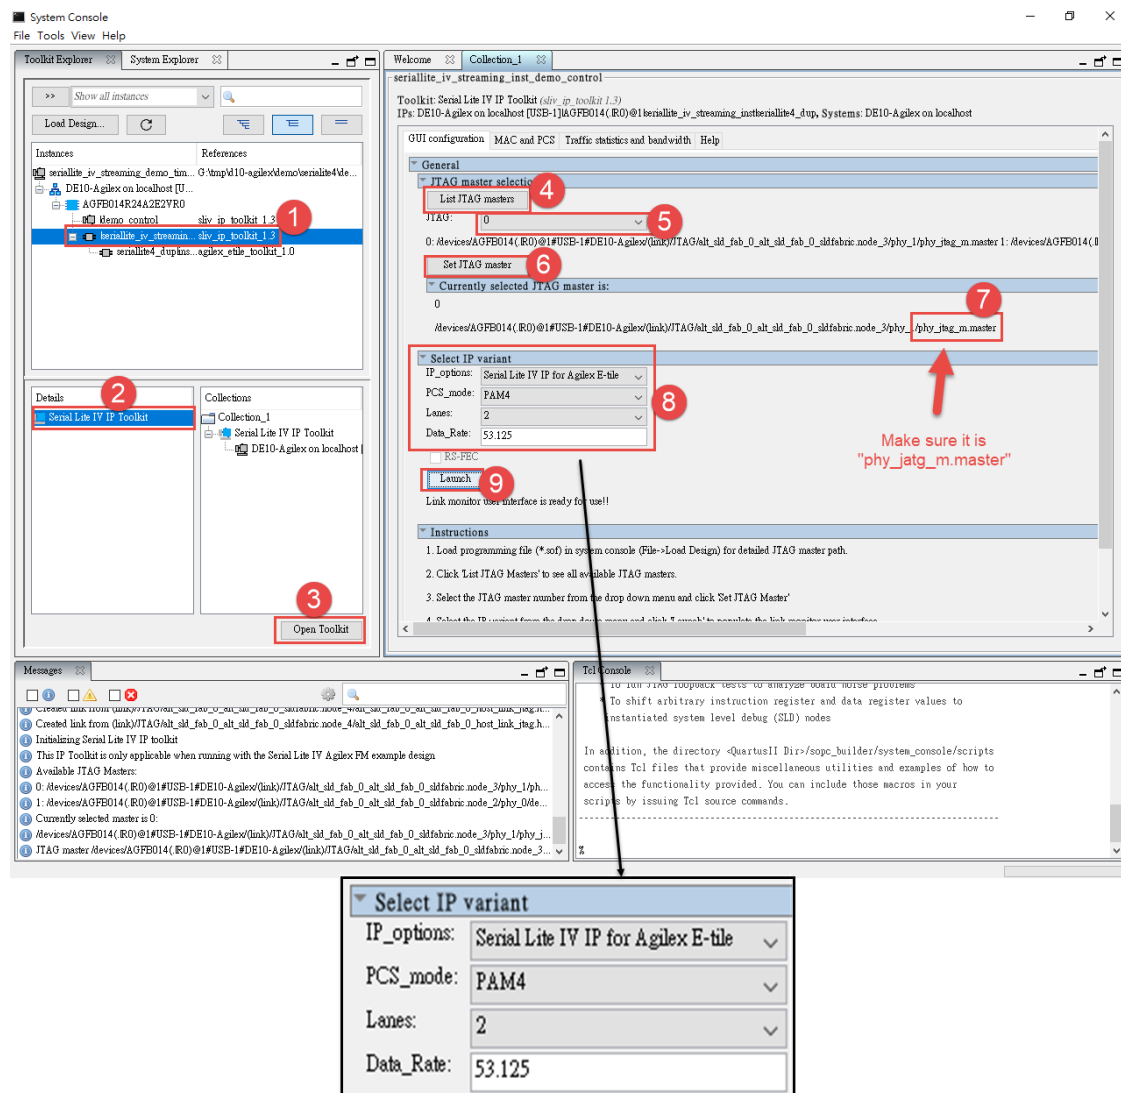

Figure 9-20 Setup JTAG Master and Serial Lite IV IP
6. Please refer to steps 1~9 (1~9) on **Figure 9-20** to set the set JTAG master settings to enable communication between the development kit and toolkit.